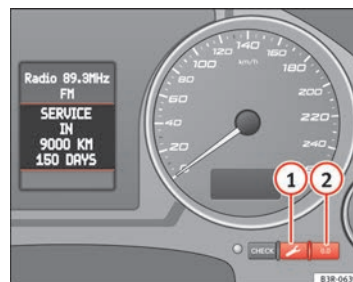

Fig. 52 Detailed view of the instrument panel: Service indicator
- Press the service button ⇒ Fig. 52 ① and hold while switching on the ignition. The display will show one of these messages: **Service in ----- km or Service!**
- Now press and hold the reset button ② until the display shows **Service in ----- km --- days or Service!**